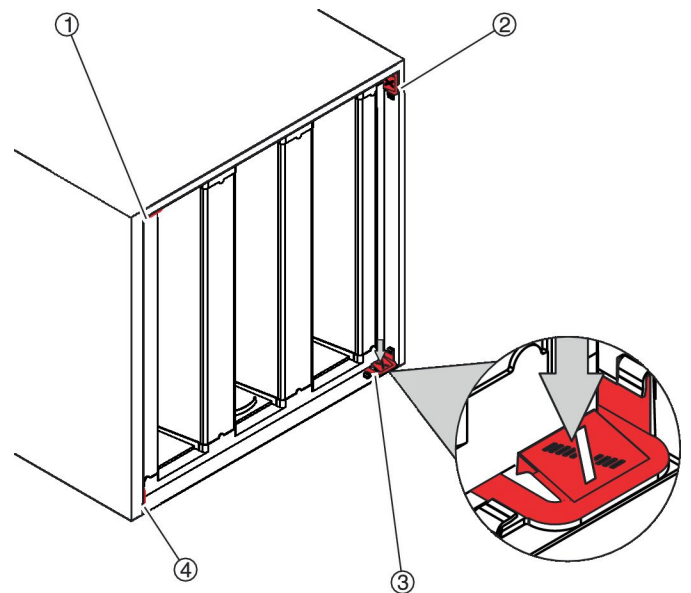

Fig. 57: Loosening the quick release fasteners
3. ▶ Press down the quick release fasteners ( Fig. 57 /1 to 4).